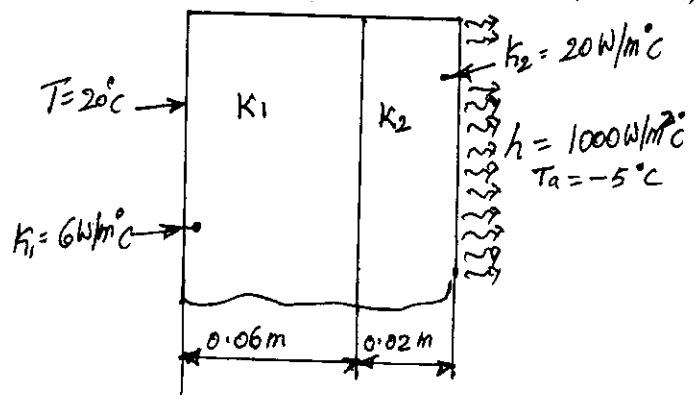

Fig.Q8(b)
- b. Determine the temperature distribution through the composite wall subjected to convection heat loss on the right side surface with convection heat transfer coefficient shown in Fig.Q8(b). The ambient temperature is -5°C . (10 Marks)